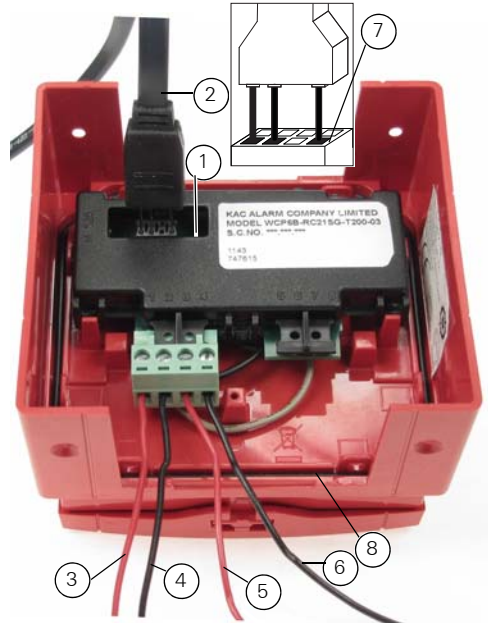

Fig. 2: MCP830M Rear View and Wiring Information
The MCP830M is programmed with the address prior to installation using an address programming tool. The associated ancillary programming lead plugs into the programming port (see items 1 and 2 in Fig 2). Refer to Fig 2 for proper orientation.
Ensure that the pins of the ancillary programming lead are inserted completely into the lower row of the programming port (see item 7 in Fig 2) for effective communication with the Address programming tool.
- Connection to the MCP830M is made via the 4 way terminal connector as shown in Fig. 2, ensuring correct polarity.
- All conductors to be free of earths. For typical wiring configuration see Fig 2.